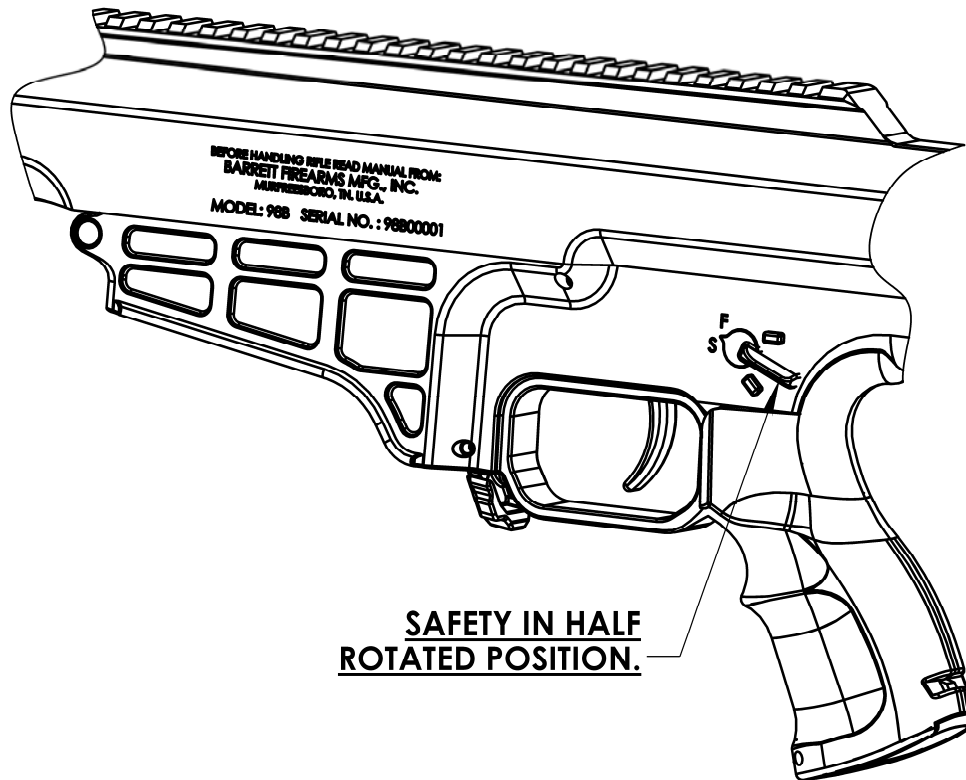

Figure 22. Removal of the Safety
1. Rotate the safety half way between the stops on the receiver. (Figure 22.) From the opposite side of the lever push and slightly rotate the safety out of the receiver. This may require a flat punch.